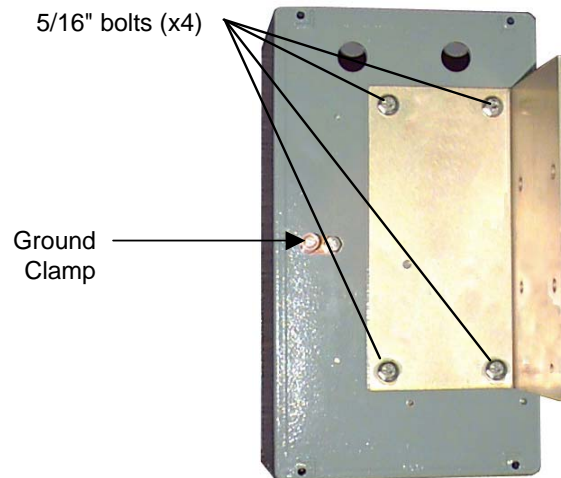

Figure 1. Bracket installation
- 2** (See **Figure 1**). The mounting bracket attaches to the underside of the 6500 enclosure with 4 bolts. Position the bracket against the underside of the enclosure so that the mounting holes in the bracket and enclosure align.
- 15** Fasten a ground wire between the ground cable installed during site preparation and the ground clamp on the underside of the enclosure (see **Figure 1**).